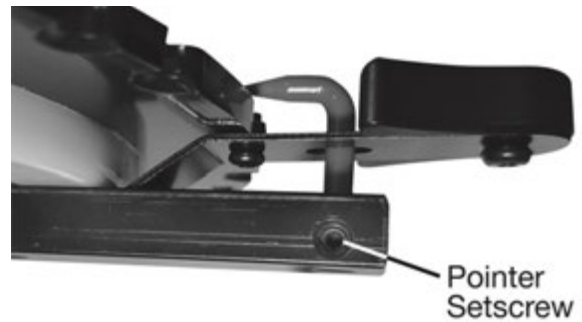

Figure 32B
4. After squaring, if the red pointer (C) is not pointing at 0°, loosen the pointer setscrew (see Figure 32B), rotate the pointer to 0°, and re-tighten the pointer setscrew.